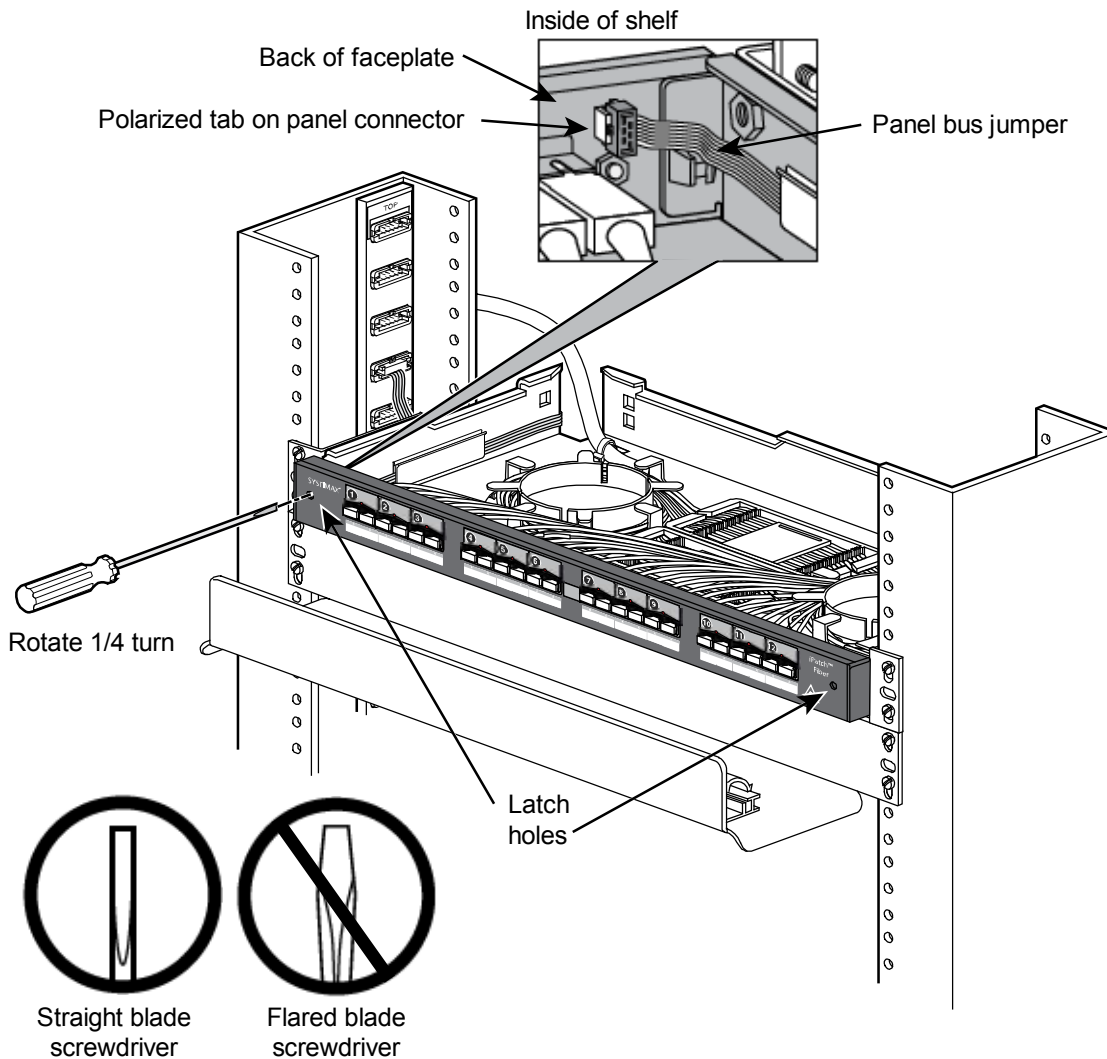

Figure 10 Removing the Faceplate to Access the Shelf
2. Insert a 1/8 inch (3mm) straight blade screwdriver into one of the latch holes in the front of the faceplate and rotate the latch one-quarter turn in either direction (Figure 10). (When unlatched, the screwdriver blade is horizontal.)
3. Repeat Step 2 for the other latch (Figure 10).
2. Connect the panel bus jumper to the left side of the back of the faceplate (Figure 10).
3. Holding the faceplate in position against the shelf, insert a 1/8 inch (3mm) straight blade screwdriver into one of the latch holes in the front of the faceplate and rotate the latch one-quarter turn in either direction (Figure 10). (When latched, the screwdriver blade is vertical.)
4. Repeat Step 3 for the other latch (Figure 10).